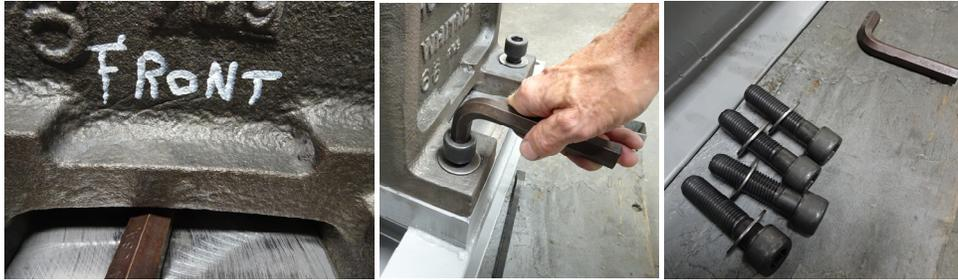

Figure 6
- **Step 3: Remove Outboard Stand** (See Figure 6)
- Remove Outboard Stand mounting bolts. (See Figure 6)